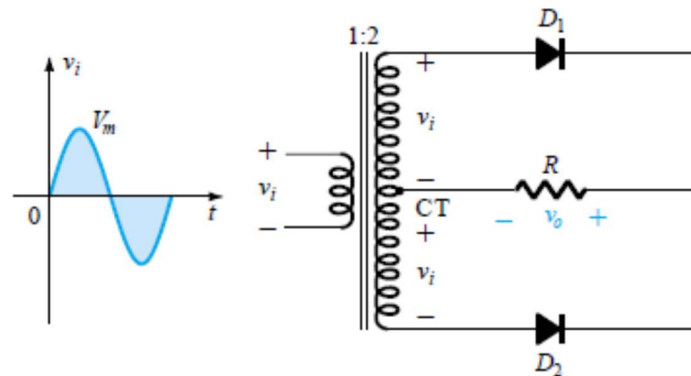

Fig. 13
A second popular full-wave rectifier appears in the Fig. 13. With only two diodes but requiring a center-tapped (CT) transformer to establish the input signal across each section of the secondary of the transformer. During the positive